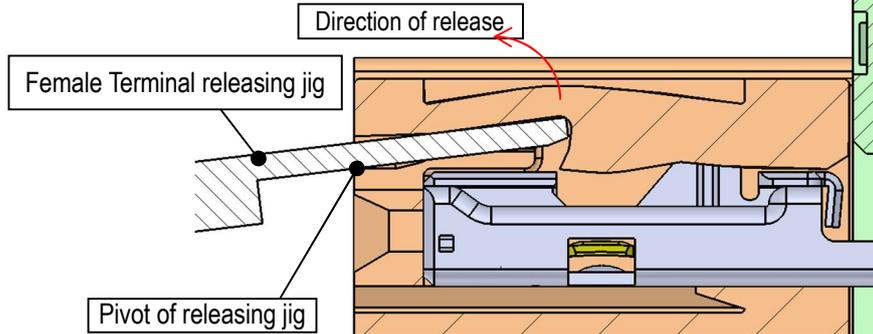

Fig34. Female Terminal releasing jig in operation
- ③ Push the releasing jig fully into the lance, then lever up the lance as shown in Fig.34 and 35 .